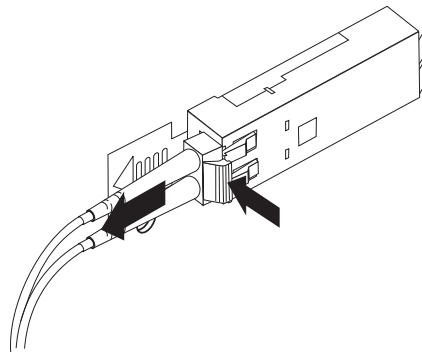

Figure 38. Removing the LC-LC fibre-channel cable
2. Carefully pull on the connector to remove the cable from the SFP module, as shown in Figure 38.